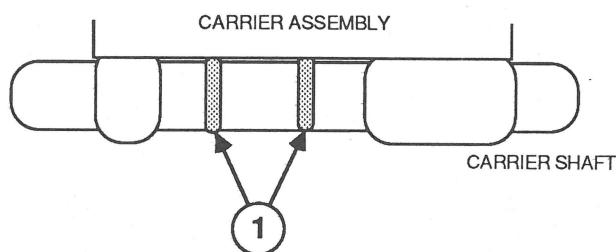

FIGURE 32
5. Slide the carrier shaft through one end of the carrier assembly, replace the two felt wipers, and slide the carrier shaft through the other side of the carrier assembly (Figure 32, #1).